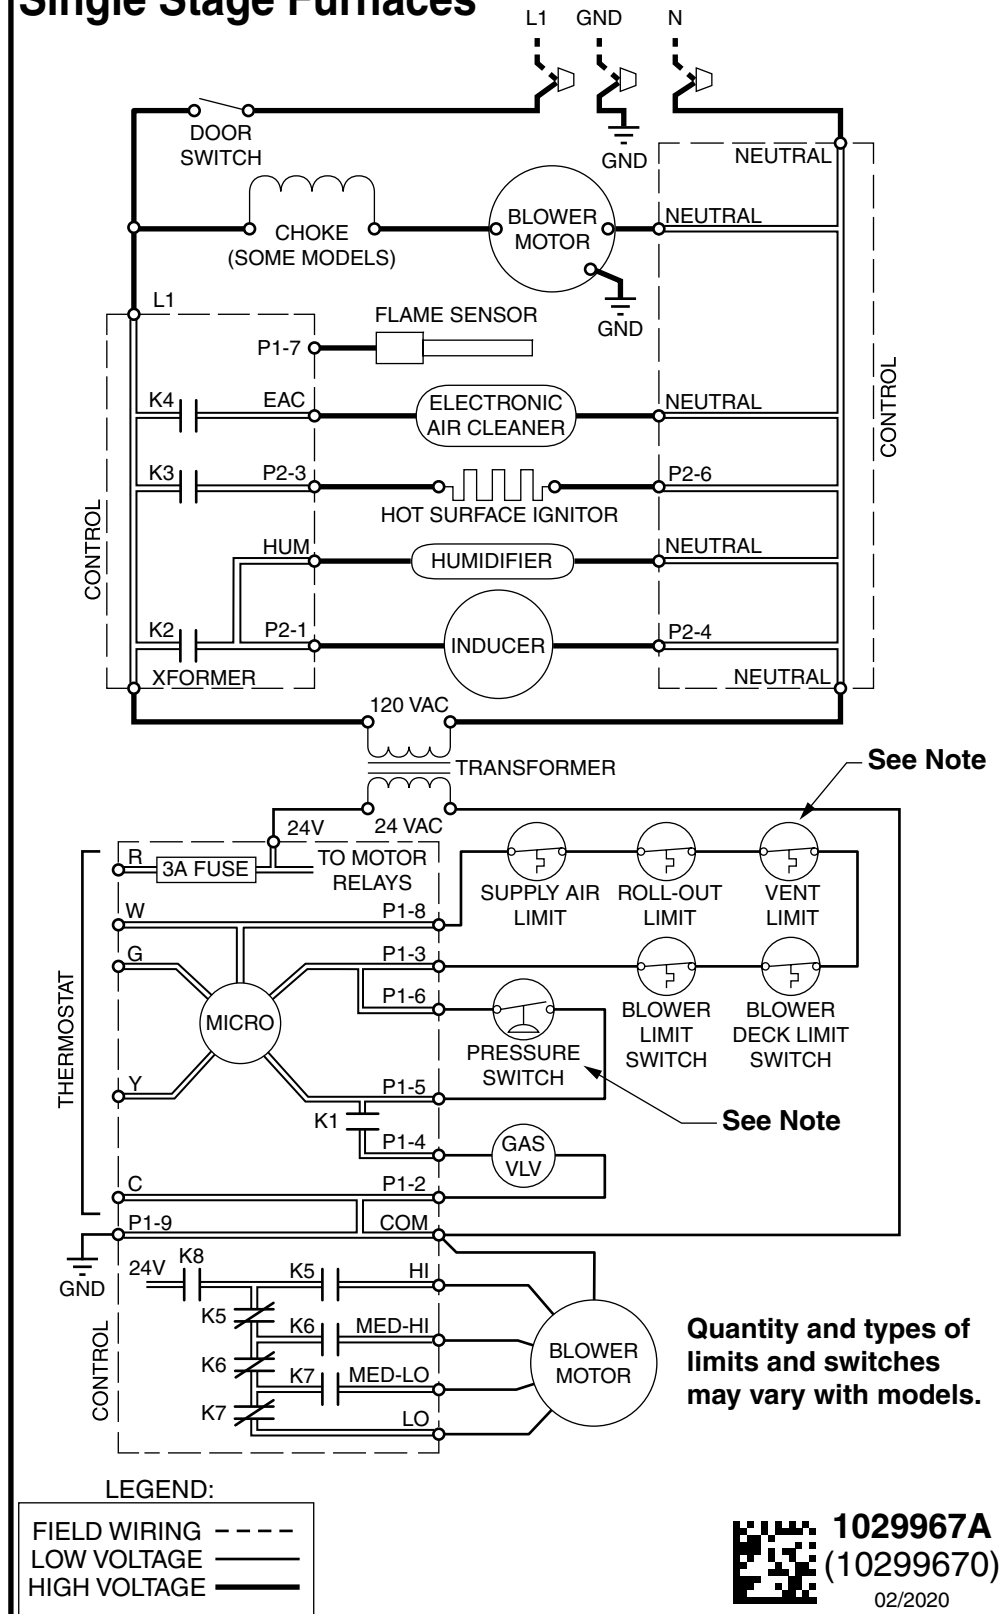

Figure 29. MG2R Ladder Diagram
- Are all the LED's on the furnace control board constantly ON? If not, refer to Table 6 or the wiring diagram (Figure 28 \(page 33\)) and Figure 29 \(page 34\) to determine fault condition.